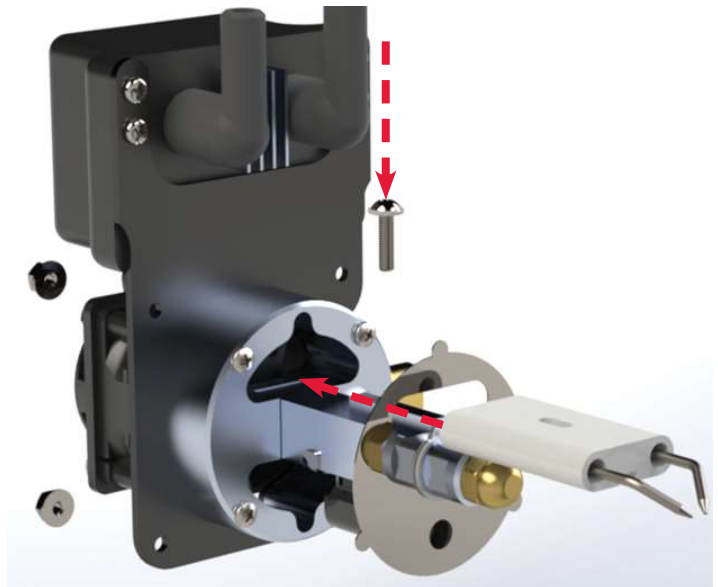

Figure 143
2. Using a $\frac{1}{8}$ " Hex or Allen wrench, secure the previously removed bolt in place without damaging the ceramic casing of the igniter. Reference Figure 143 to properly position the igniter in place.